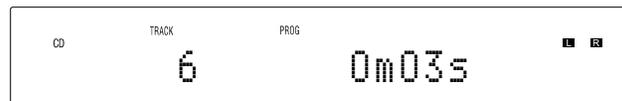

Figure 35
4. To start playback of the just entered program, press the PLAY/PAUSE $\blacktriangleright/\parallel$ Push-button. Refer to figure 35.